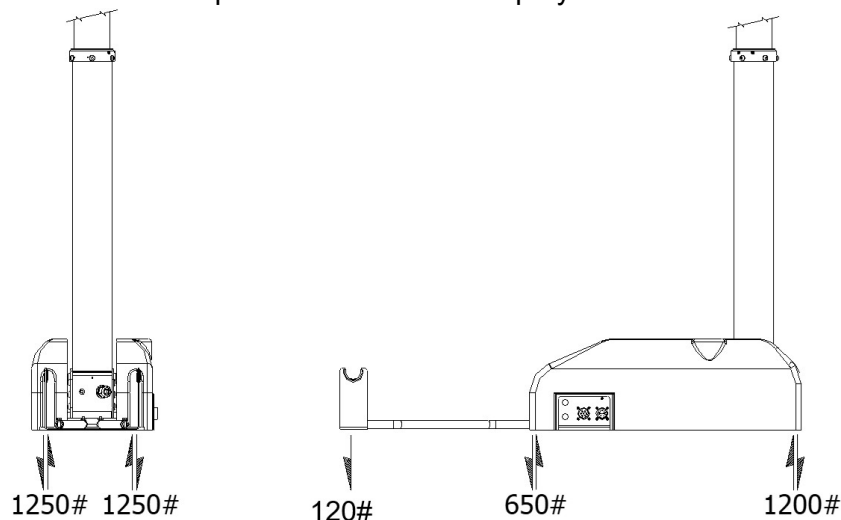

Figure 5-1 Reaction Loads on Mounting Structure
4. It is important that both the base and the saddle be securely mounted to a sturdy roof or platform which will not overturn during operational loading of the mast. The surface must be reinforced to withstand the load at the different points on the mast that can be expected during operation as shown in Figure 5-1. These are maximum load estimates placed downward and sometimes upward on the vehicle top by the mast.